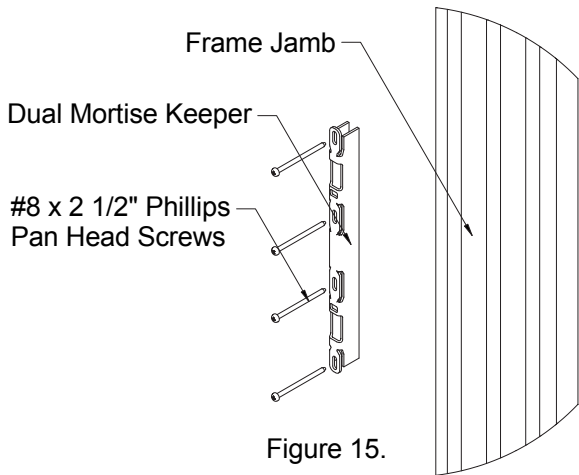

Figure 15.
**Step 21. (Keeper Installation)** To complete the frame installation, use the supplied #8 x 2 1/2" stainless steel phillips pan head screws to install the dual mortise keeper (See Figure 15). There will be dimples in the frame jamb to help locate the keeper.